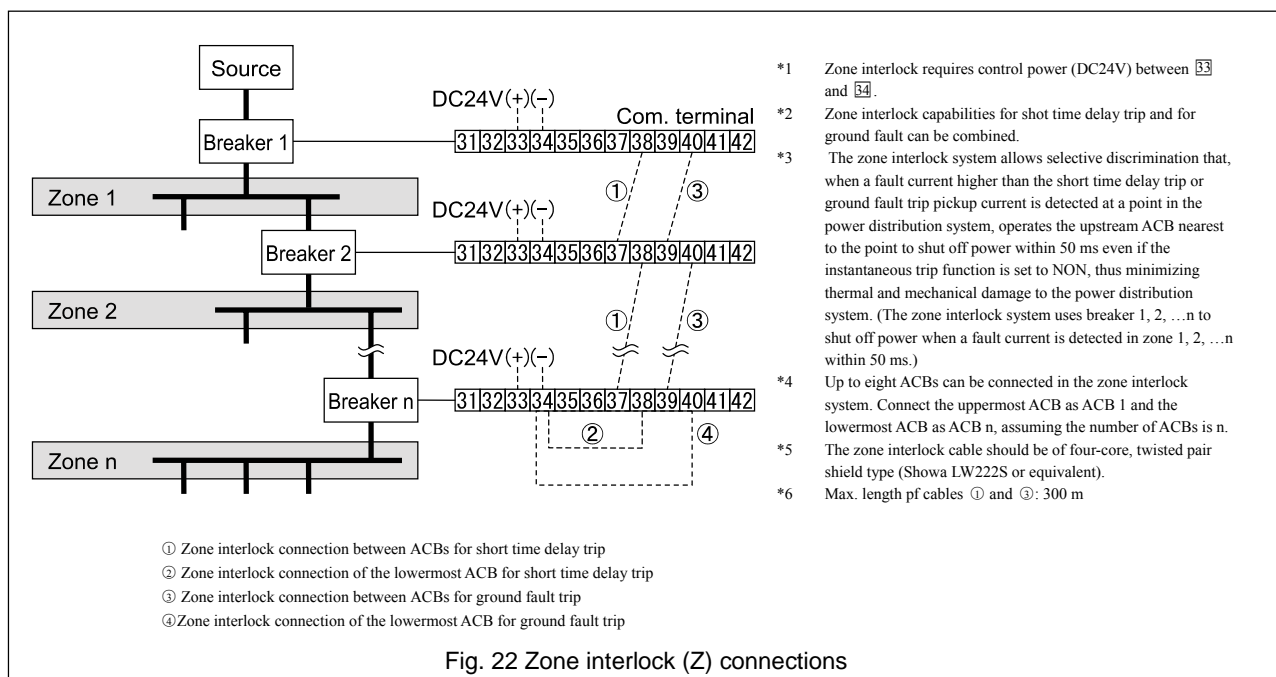

Fig. 22 Zone interlock (Z) connections
Fig. 22 shows how to connect ACBs when the overcurrent release (OCR) is provided with the zone interlock (Z) capability. See Fig. 19 for other circuits than that of the zone interlock.